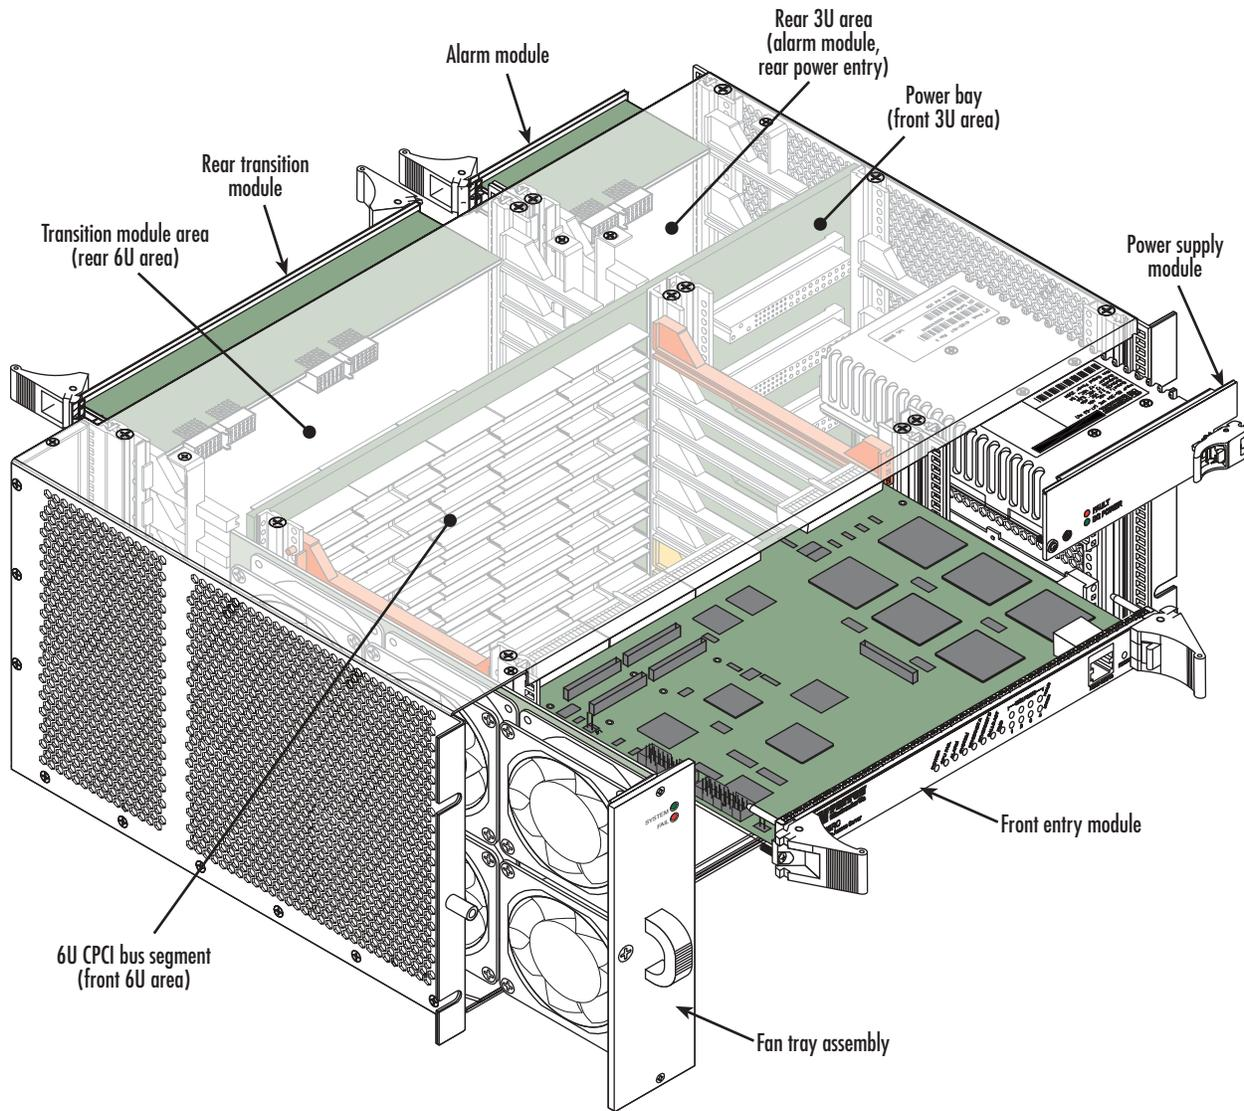
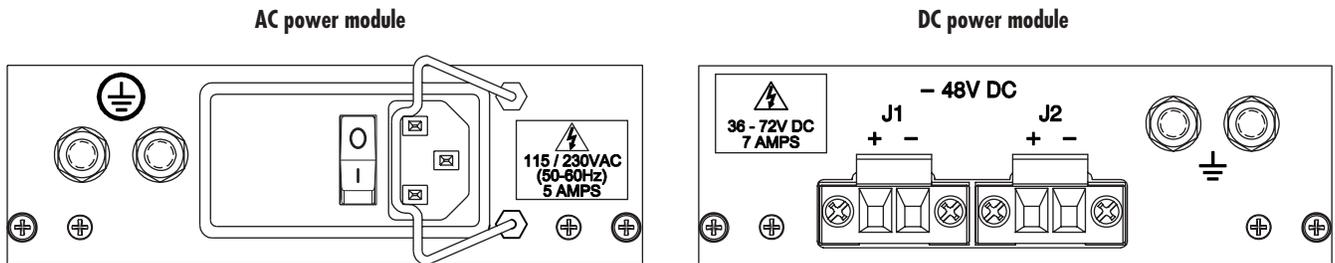

Figure 2. Model 6476 ForeFront FullPipe Chassis
Figure 5. AC and DC rear power entry modules
There are eight 6U x 160mm slots (a full CPCI bus segment) at the front of the chassis (see figure 2). Front-entry ForeFront modules, in accordance with PICMG 2.0 CompactPCI specifications, are plugged into these slots.
- A set of eight 6U slots for ForeFront transition modules (see figure 2 on page 18). These modules typically contain cable connections for I/O interfaces such as T1/E1 trunks, optical fiber trunks, DSL lines, Ethernet, etc.
- Power input modules—either Patton Model 6112/HOR (DC) or Patton Model 6117/HOR (AC) (see figure 5 on page 20). These modules provide power input to the power supplies in the front of the chassis (see figure 2 on page 18). Each input module provides input for two power supplies. The following configurations are possible: